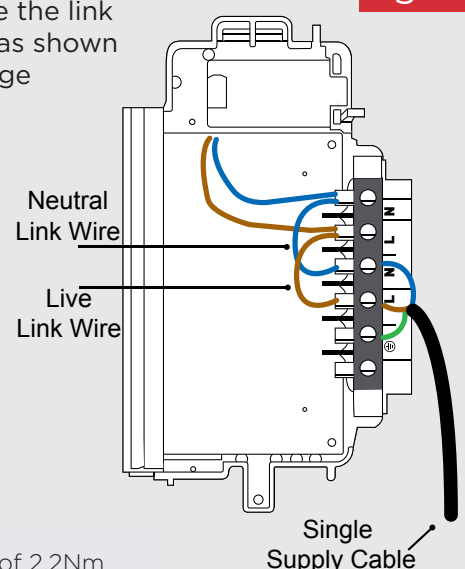

Fig. 10b
10. The heater leaves the factory configured to operate with two mains supplies, a 24 hour peak supply and an off peak switched supply (see Fig 10a). The heater can also be operated with a single main supply (Fig. 10b).